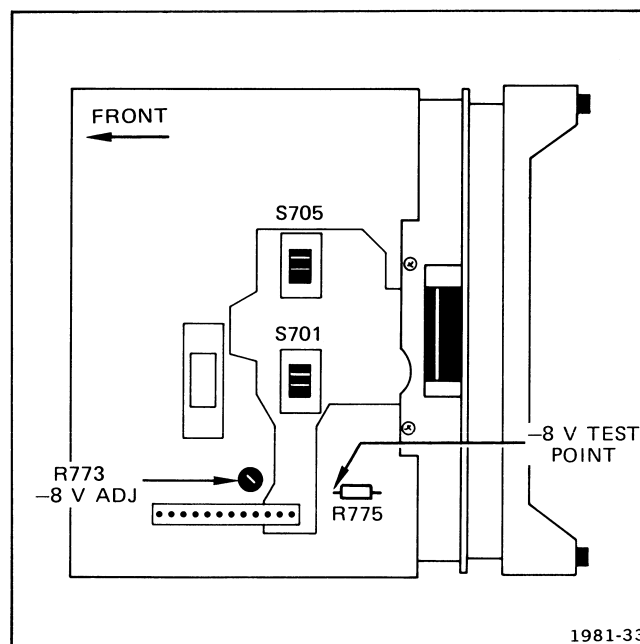

Fig. 4-1. Power supply adjustment location (bottom of T912).
a. Connect digital voltmeter between the -8 V side of R775 and ground (see Fig. 4-1). If meter does not read between -7.96 V and -8.04 V, proceed to part b.
b. ADJUST—R773, -8 V Adj (see Fig. 4-1) for -8.00 V dc.